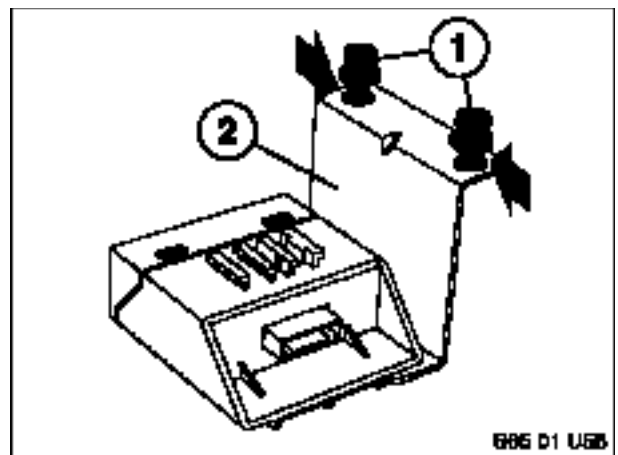

Figure 7
2.4 See Figure 7. Partially install (one complete turn is sufficient) M6x12mm hex head bolt with captive flat washer (1) into each M6 threaded openings (see arrows) on sensor/bracket assembly (2).